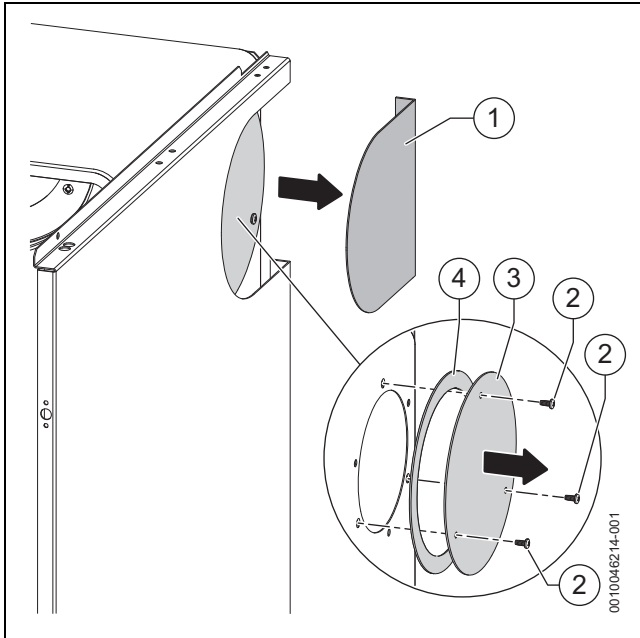

Fig. 56 Removing knock-out panel and flue outlet blanking plate (right hand side example)
- Refer to figure 56, right hand side example shown.